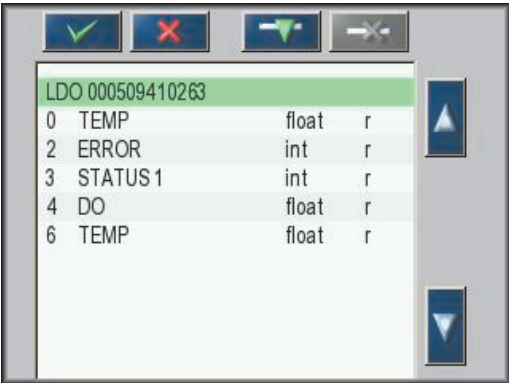

Figure 47 Profibus/Modbus configuration menu—Telegram list with new tag
7. Select a tag and press the **ENTER** button. The new tag is added to the Telegram list. Select a tag and press the **UP** and **DOWN** button to move the position of the tag (Figure 47 and Table 14).